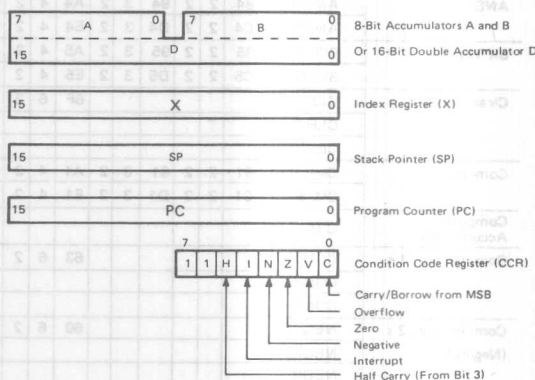

Figure 23 CPU Programming Model
- CPU Programming Model (Figure 23)
The programming model for the HD6801V is shown in Figure 23. The double (D) accumulator is physically the same as the Accumulator A concatenated with the Accumulator B so that any operation using accumulator D will destroy information in A and B.